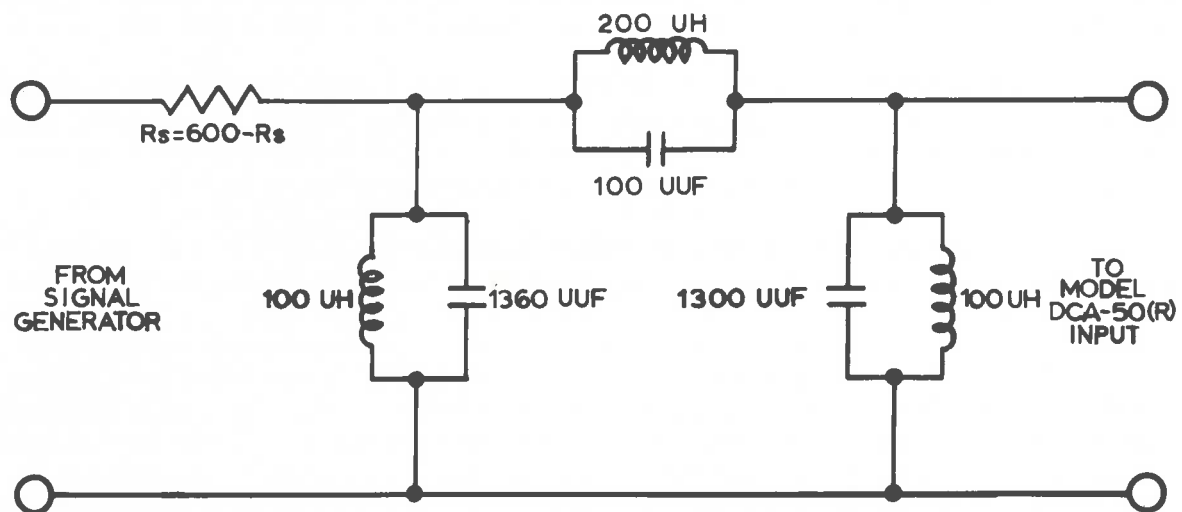

Figure 6 - Band-Pass (Purifying) Filter for Obtaining a Pure 1 mc Signal.
- a. Sine-wave generator of approximately 10 volts rms maximum output at 500 kc/s with less than 1% distortion. If a generator with less than 1% distortion is not available, the purifying filter, shown in Figure 6, must be used. Since the filter has a gain of approximately five, a generator with approximately 2 volts rms output at 500 kc/s is sufficient.
Turn the Amplifier on and set the INPUT SELECTOR switch to the 1 CPS X10 position. Connect the 200 ohm non-inductive load between the AC OUTPUT terminal and chassis ground. Apply a 10 volt rms 500 kc/s signal to the INPUT terminals of the Amplifier directly if the distortion of the sine-wave generator is less than 1%. If the distortion of the 500 kc/s source is greater than 1%, which is true for most commercial generators, insert the purifying filter, shown in Figure 6. This filter is designed to operate with a 600 ohm source. If the sine-wave generator has an internal impedance of 600 ohms, no additional series resistor, R_s , is required. If the generator source impedance is lower than 600 ohms, it is necessary to add a resistor so that the sum of R_s and the generator source impedance is equal to approximately 600 ohms.
Since the typical Model DCA-50(R) Amplifier distortion at 500 kc/s is approximately 2-3%, a signal generator with less than 1% distortion is required for this measurement. If a generator with this distortion specification is not available, a band-pass (purifying) filter, shown in Figure 6, can be constructed to obtain a suitable distortion-free 500 kc/s source.